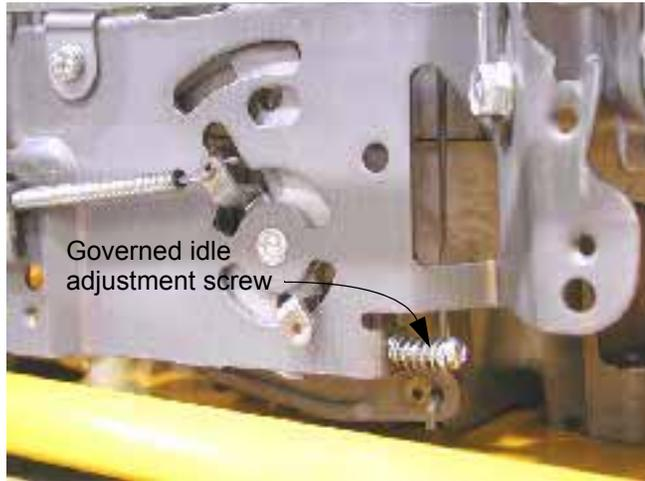

Figure 14.6
- 14.6. Set the governed idle to 1,550 R.P.M. using the screw at the lower right hand corner of the control bracket. See Figure 14.6.